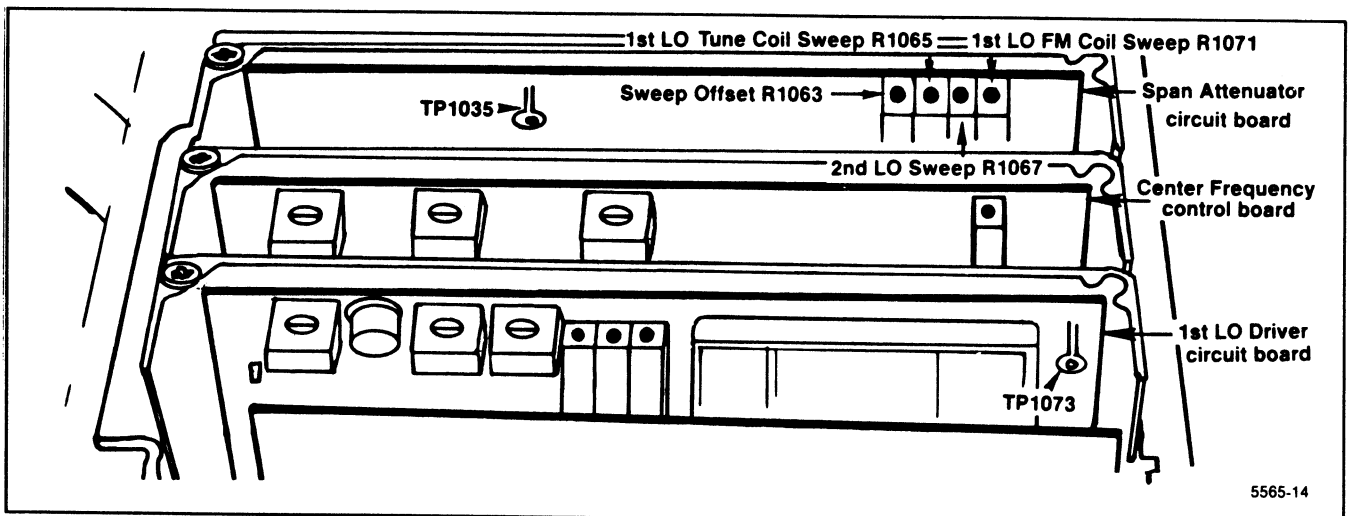

Figure 5-10. Frequency control system test point and adjustment locations.
b. Connect a shorting strap from TP1035, on the Span Attenuator board, to chassis ground (Figure 5-10). Monitor TP1073 with the Digital Voltmeter.
c. Adjust Sweep Offset R1063 (Figure 5-10) for 0.00 V.
d. Remove the shorting strap from TP1035. Press <SHIFT> 0 select item 1 (FREQUENCY LOOPS CAL), then item 0 (OVERALL SYSTEM) from the menus. Perform the calibration steps in the directory up to "CONNECT A DVM TO PIN B ON THE CONTROLLED OSCILLATOR BOARD AND GROUND ", then press <SHIFT> to abort.
(1) If a "CALIBRATION STEP CANNOT BE COMPLETED" message is displayed, bypass the step, perform the other adjustments then return to the adjustment and try to bring the adjustment in range. If the problem persists, refer to Troubleshooting the Frequency Control System, in the Maintenance section.
(1) Apply the CAL OUT signal to the RF INPUT, set the FREQUENCY to 600 MHz, FREQ SPAN/DIV to 100 MHz, and set the REF LEVEL to display the markers.
(2) Adjust Tune Coil Swp R1065, on the Span Attenuator board (Figure 5-10) for one marker per division over the center eight divisions of the graticule. Reset the CENTER FREQUENCY as necessary to align the markers.
(3) Remove the Calibrator signal and apply 0.2  $\mu$ s time marks from the Time Mark Generator to the RF INPUT.
(4) Set the FREQ SPAN/DIV to 5 MHz, REF LEVEL to +10 dBm, and FREQUENCY to about 10 MHz.
(5) Adjust the 1st LO FM Coil Swp R1071 (Figure 5-10) for 1 marker/division over the center eight divisions of the display.
(6) Set the FREQ SPAN/DIV to 20 KHz and apply 50  $\mu$ s markers from the Time Mark Generator.
(7) Adjust the 2nd LO Sweep, R1067, for one marker/division over the center eight divisions.